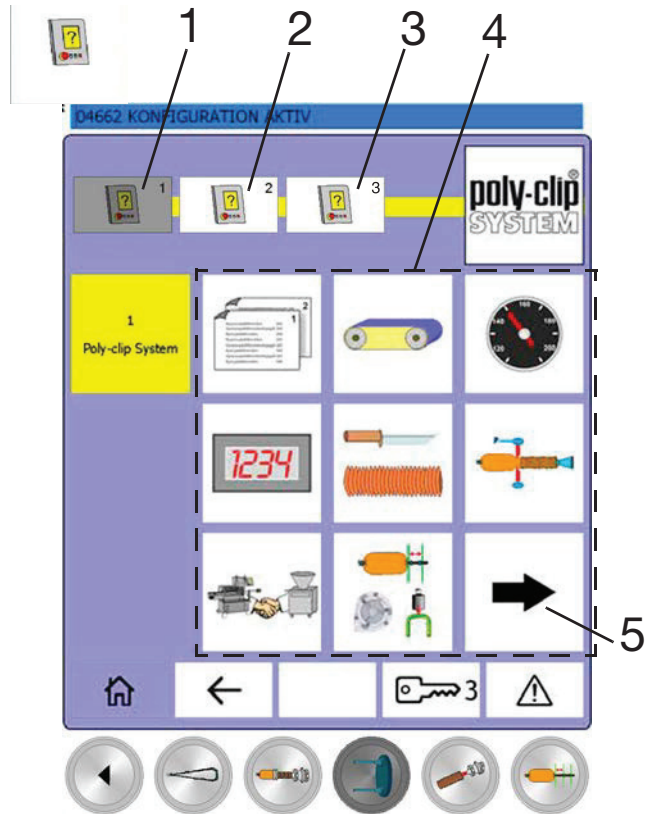

Fig. 4-60 Screen configuration for the Operator menu level, part 1
The "Screen configuration for the Operator menu level, part 1" screen appears (see Fig. 4-60).
Selected icon selection buttons will be coloured grey. If the entire Basic selection screen, part 2 should not be visible in the Operator menu level, you must switch icon selection button 5 (Fig. 4-60) to invisible. If some icon selection buttons in the Basic selection screen, part 2 or part 3 are to remain visible, then you should not switch icon selection button 5 to invisible.
- Press button 2 Fig. 4-60: